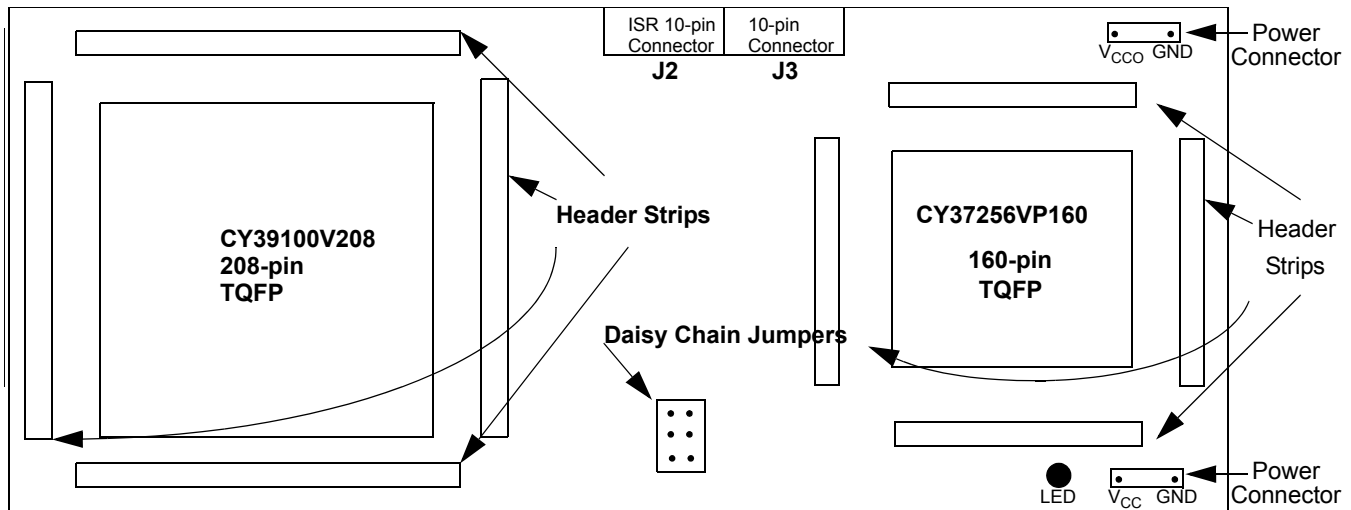

Figure 1. Delta39K/Ultra37000 Prototype Board
4. See Figure 1 for the basic layout.